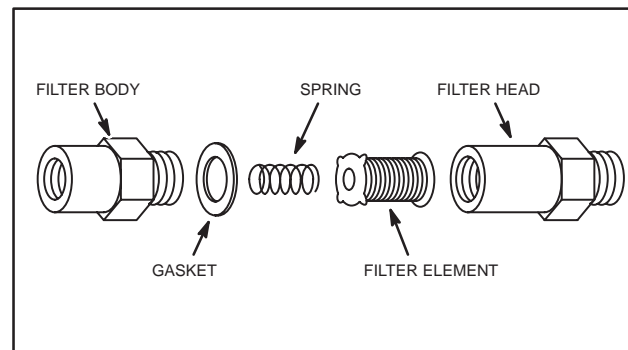

Fig. 301 – ELEMENT ASSEMBLY
1. Shut off gas. Unscrew filter head from filter body. Remove element assembly from head, Fig. 301.